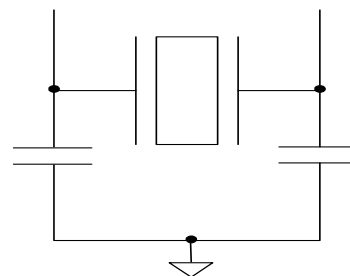

Figure 2. Crystal Capacitive Clarification
Crystal loading plays a critical role in achieving low ppm performance. To realize low ppm performance, the total capacitance the crystal will see must be considered to calculate the appropriate capacitive loading (CL). *Figure 2* shows a typical crystal